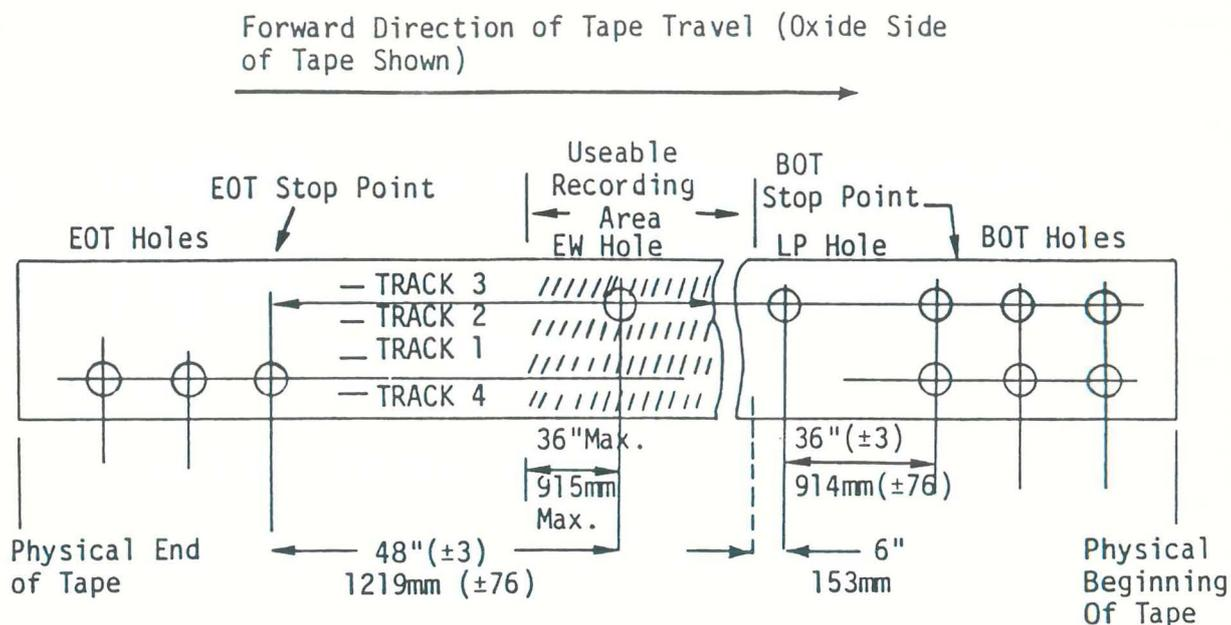

Figure 3-3. Tape Position Holes
Figure 3-3 shows location of the ANSI specified tape position holes which are sensed to indicate tape position to the controller. Note that data should not be written prior to 6 inches (15.2 cm) beyond the load point hole (LP) nor more than 36 inches (91.4 cm) beyond the early warning (EW) hole at the end of the tape. In drives with control boards the tape will rewind past load point and the first set of beginning of tape (BOT) holes, and then stop, ready for a forward command. Load Point Sensed (LPS-) goes true after the load point hole is sensed in reverse direction. Since LPS- will later go false when the load point hole is detected in the forward direction, the controller can detect this status and with a delay cause the initial gap to be generated.